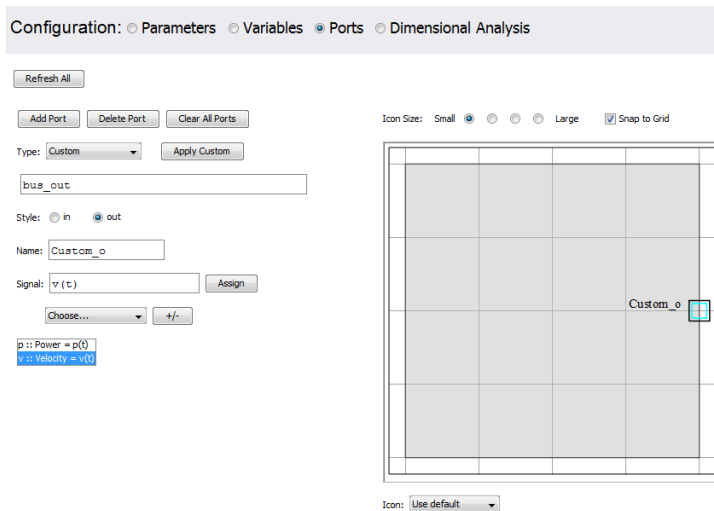

Figure 6.10: Using a Custom Port
14. Using the drop-down menu and list box at the bottom of this section, assign the power signal to $p(t)$ and the velocity signal to $v(t)$. **Figure 6.10** shows the completed Ports section of the template.